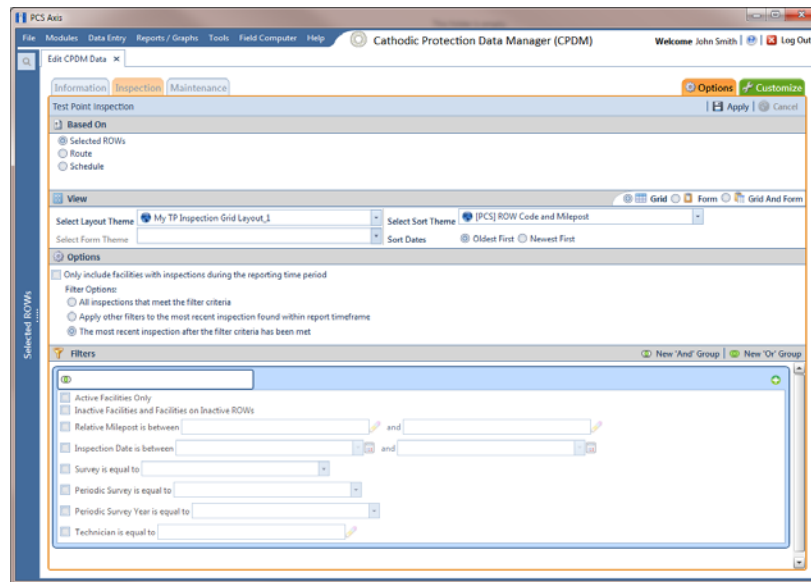

Figure 7-32. Options
- b Click the **Options** tab  to open the options page. Then click the option **Selected ROWs** in the *Based On* group box (Figure 7-32).
- c** To apply a filter to the grid, click the check box for a filter listed in the *Filters* group box (Figure 7-32, page 240).